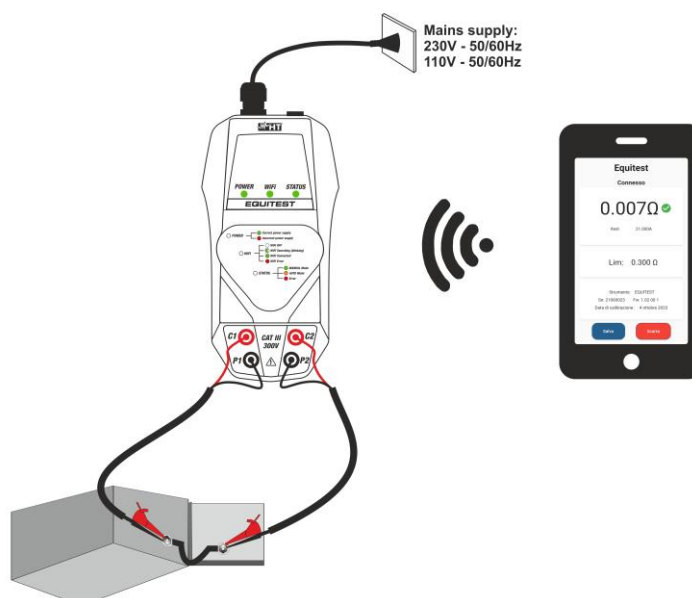

Fig. 4 Use of the instrument with HT Equitest APP
5. Connect the alligator clips of the **C7000** cable set to the ends of the object under test (see Fig. 4)
test in **Manual mode** or simply by moving the test terminals if **Automatic mode** is selected. The instrument provides the test current >10A AC and the measurement result is shown within the APP (see Fig.4) with the "✓" icon in case of a passed test or "!" icon in case of a failed test